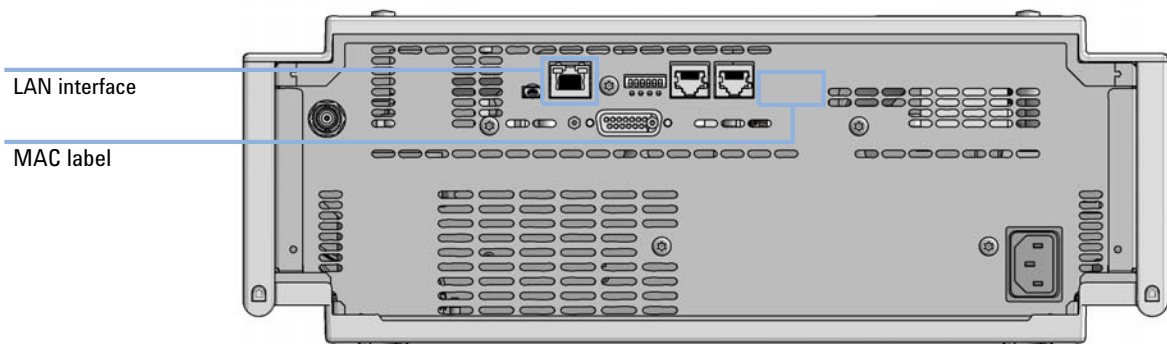

Figure 22 Location of LAN interfaces and MAC label
- 1 Note the MAC (Media Access Control) address for further reference. The MAC or hardware address of the LAN interfaces is a world wide unique identifier. No other network device will have the same hardware address. The MAC address can be found on a label at the rear of the module underneath the configuration switch (see Figure 22 on page 222).
- 2 Connect the instrument's LAN interface (see Figure 22 on page 222) to